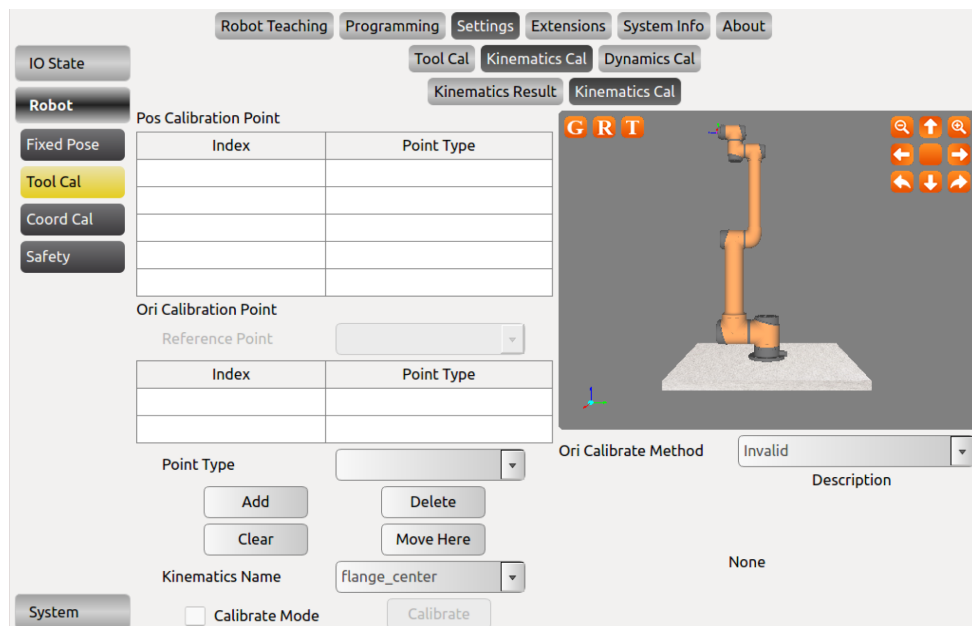

Figure 10-29 Tool Kinematics Calibraton
- Go to the kinematics calibration page as figure 10-29.